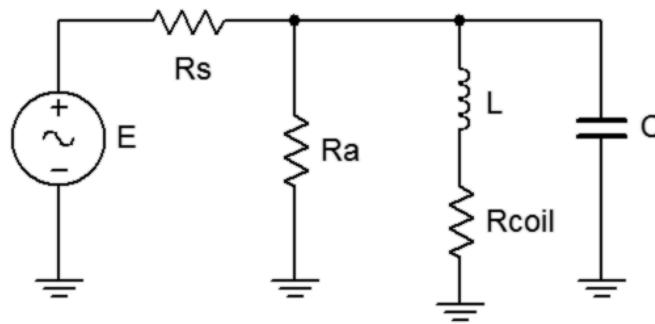

Figure 14.1
1. Using Figure 14.1 with  $R_s=100\text{ k}\Omega$ ,  $R_a=2.2\text{ k}\Omega$ ,  $L=10\text{ mH}$ ,  $R_{\text{coil}}=7\ \Omega$  and  $C=10\text{ nF}$ , determine the theoretical resonance frequency and  $Q$ , and record the results in Table 14.1. Based on these values determine the upper and lower frequencies defining the bandwidth,  $f_1$  and  $f_2$ , and record them in Table 14.1 also.
2. Build the circuit of Figure 14.1 using  $R_s=100\text{ k}\Omega$ ,  $R_a=2.2\text{ k}\Omega$ ,  $L=10\text{ mH}$  and  $C=10\text{ nF}$ . Set the output of the generator to a 10 V p-p sine wave at the theoretical resonant frequency. The large value of  $R_s$  associated with the voltage source will make it appear as a current source equal to approximately 1 mA p-p, assuming the parallel branch impedance is much less than  $R_s$ . Place a probe across the parallel branch. Set the frequency to the theoretical resonance frequency of Table 14.1. Make sure that the *Bandwidth Limit* of the oscilloscope is engaged for both channels. This will reduce the signal noise and make for more accurate readings.